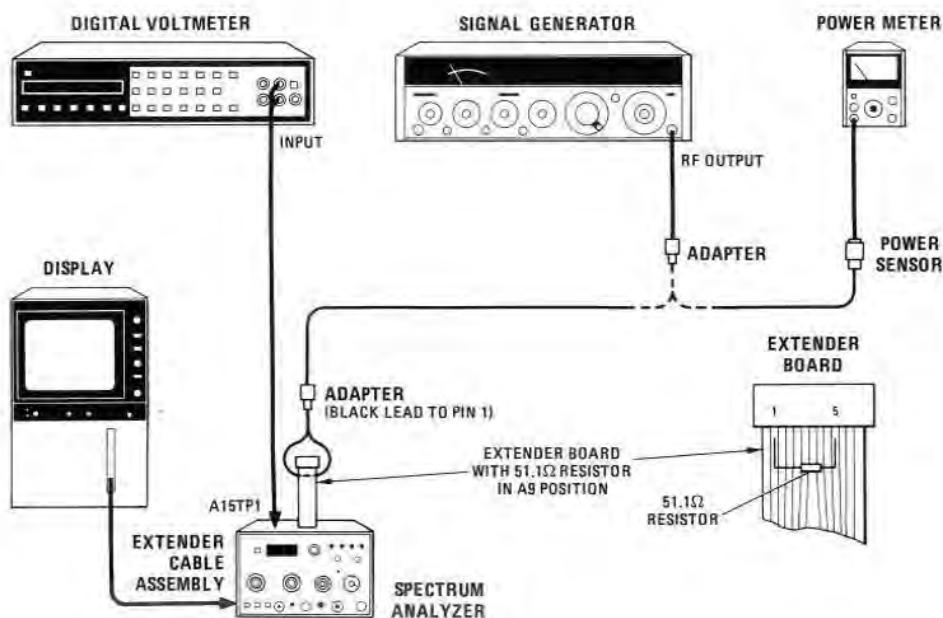

FIGURE 5-10. STEP GAIN ASSEMBLY RF GAIN ADJUSTMENT TEST SETUP
- Connect equipment as shown in Figure 5-10.